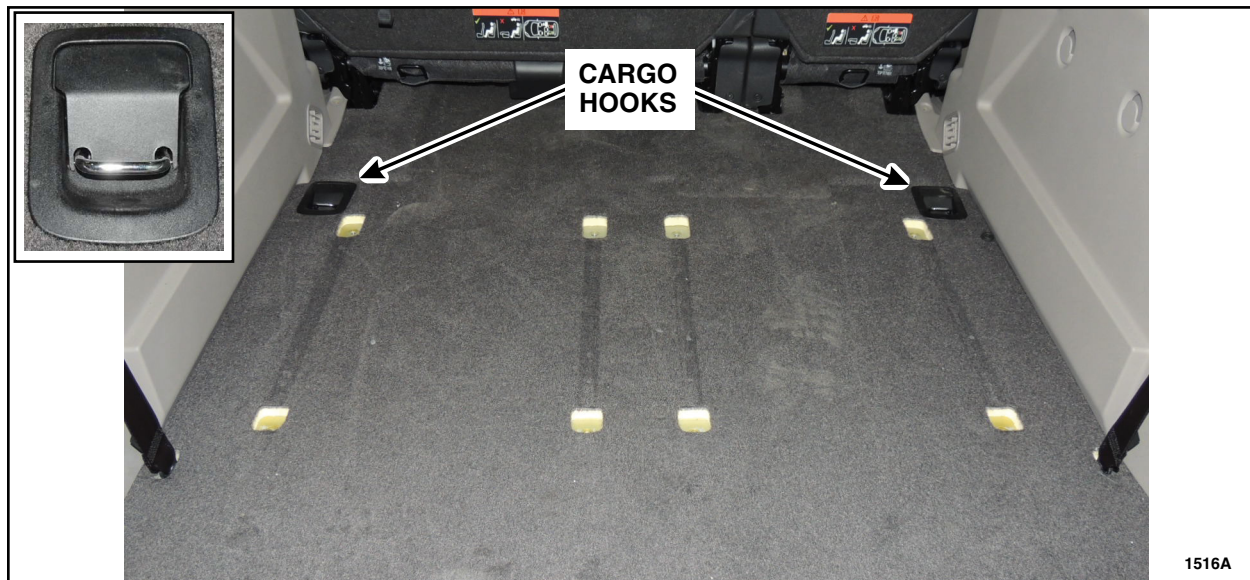

FIGURE 3
5. Remove the two cargo hooks. See Figure 3.